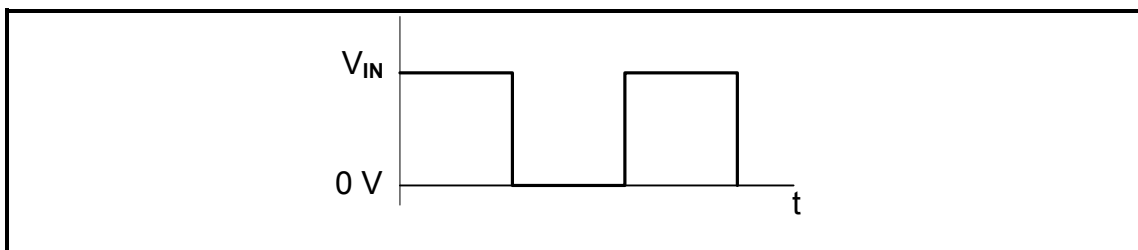

FIGURE 2.9.1: INPUT SIGNAL
2.9.1 Draw the output signal on ANSWER SHEET 2.9.1, when the input signal in FIGURE 2.9.1 below is applied.